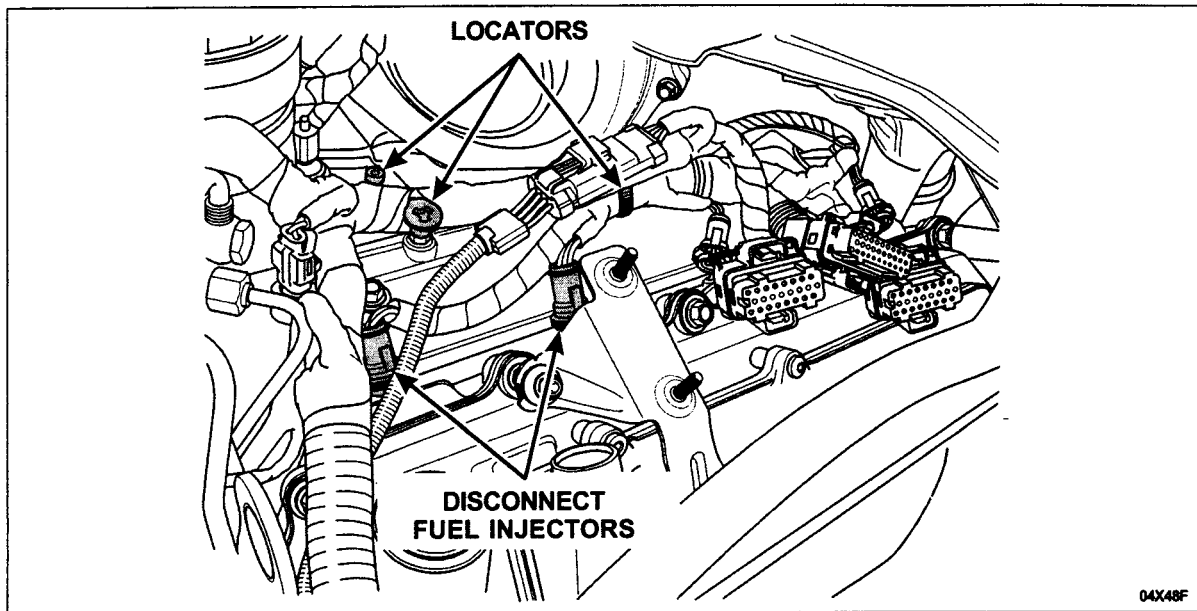

FIGURE 7
2. Disconnect the remaining two (2) fuel injectors on the driver side along with three (3) wire harness locators (two [2] located along the fuel injector manifold assembly and one [1] located under the turbocharger). See Figure 7.